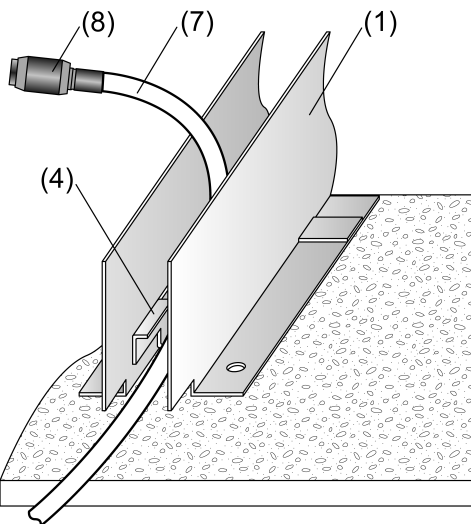

Figure 2
- Lay the connection cable (7) with the connection socket (8) into the frame(Figure 2).